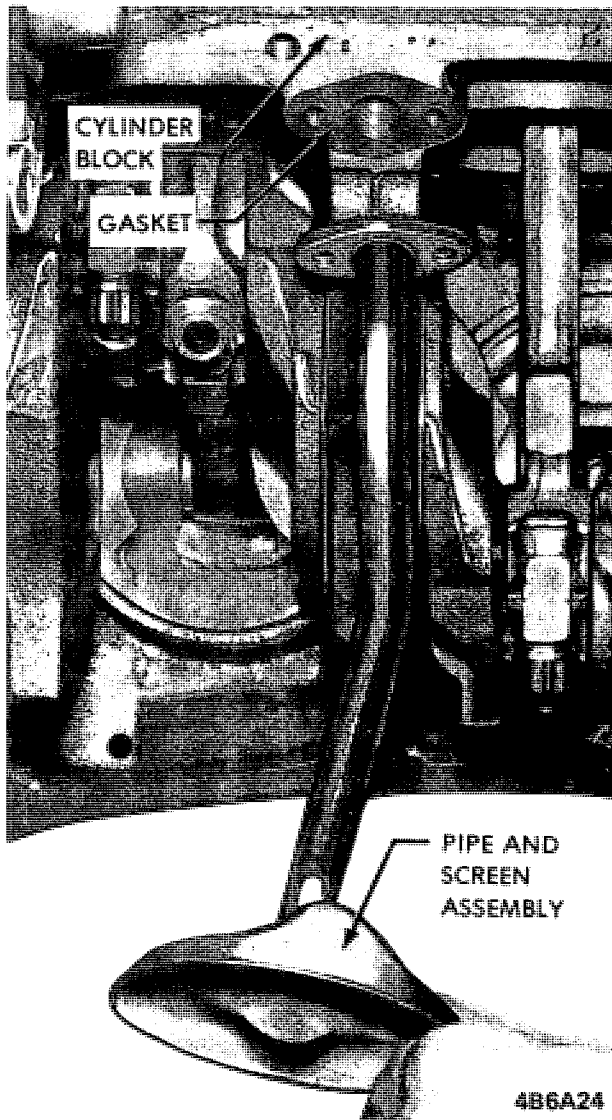

Figure 6A-71 - Oil Pickup Pipe and Screen
2. Use new gasket and tighten bolts to specifications. See Figure 6A-71.